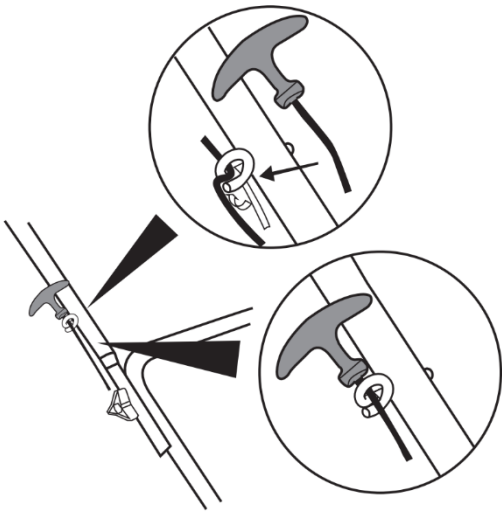

Fig. 3
4. Insert the starter handle into the special ring on the handle, see Fig. 3.